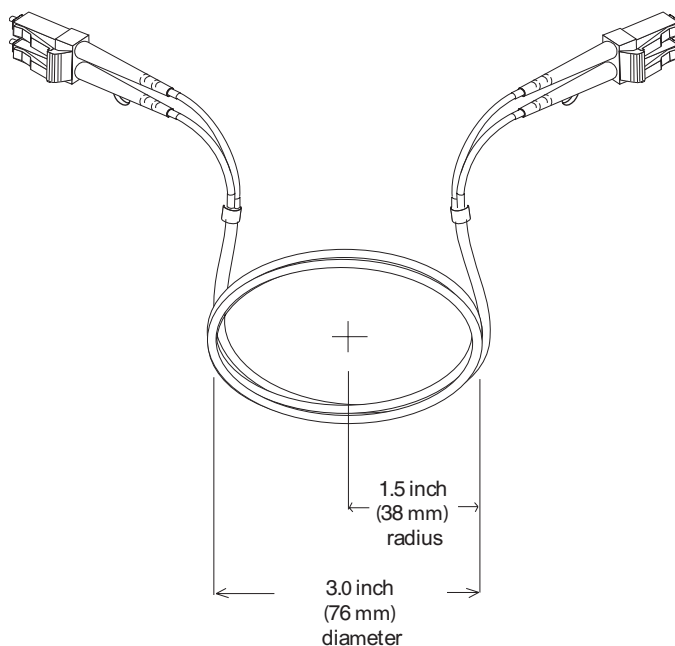

Figure 24. Bending and looping specifications for fiber-optic cables
**Note:** IBM Fibre Channel (FC) cable options have been tested and approved for the IBM DS storage products. For optimal performance and compatibility, always use IBM FC cable options when installing the IBM DS products.
- When storing excess or unused fiber-optic cables, do not bend the cables to a diameter of less than 76 mm (3 in.), or a radius less than 38 mm (1.5 in.) or wrap them around themselves. See Figure 24 on page 48.